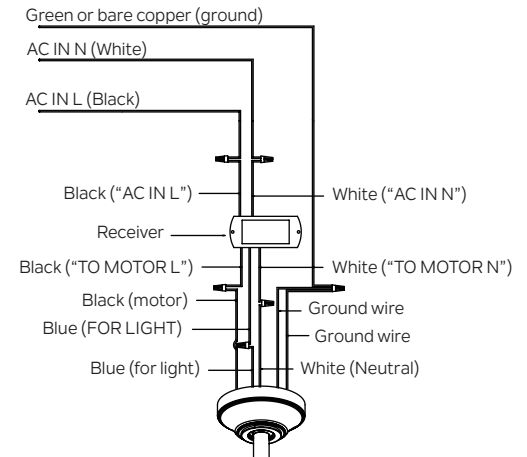

Fig. 14
Step 2. Motor to Receiver Electrical Connections: Connect the BLACK wire from the fan to BLACK wire marked "TO MOTOR L" from the receiver. Connect the WHITE wire from the fan to the WHITE wire marked "TO MOTOR N" from the receiver. Connect the BLUE wire from the fan to the BLUE wire marked "FOR LIGHT" from the receiver. Secure all the wire connections with the plastic wire connectors provided. (Fig. 14)
Step 3. Remote Receiver to Outlet Box Electrical Connections: Connect the BLACK (hot) wire from the ceiling to the BLACK wire marked "AC IN L" from the receiver. Connect the WHITE (Neutral) wire from the ceiling to the WHITE wire marked " AC IN N" from the receiver. Secure all the wire connections with the plastic wire connectors provided. (Fig. 14)
Step 4. If your outlet box has a ground wire (green or bare copper) connect it to the fan ground wires. Otherwise, connect the fan ground wire to the mounting bracket. Secure the wire connection with a plastic nut provided. After connecting the wires, spread them apart so that the green and white wires are on one side of the outlet box and black and blue wires are on the other side. (Fig. 14)